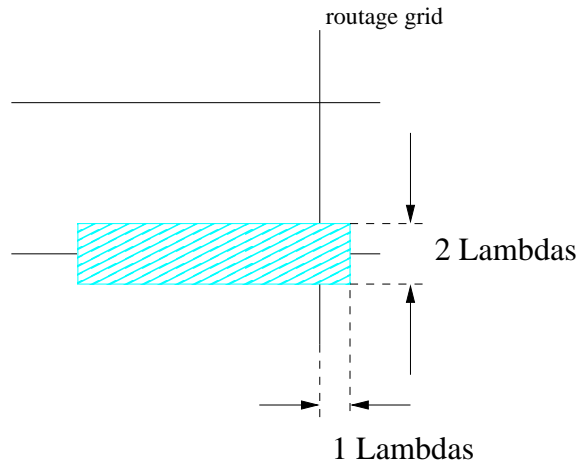

Figure 6: Low size of CALu1
- The minimal width of CALu1 is 2 lambda, plus 1 lambda for the extension (figure 6).